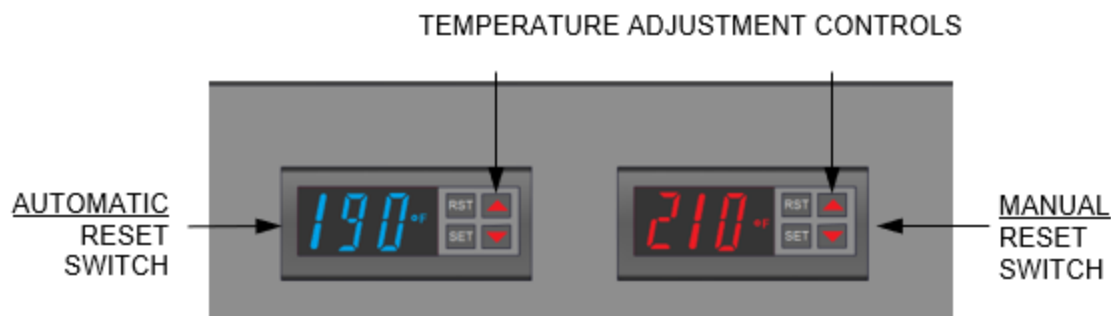

Figure 5-3a: Over Temperature Limit Switches
5. Close the gas train's Manual Shutoff valve located between the Safety Shut-Off Valve (SSOV) and the Air/Fuel Valve, as shown on Figure 5-3a to 5-3c, above.